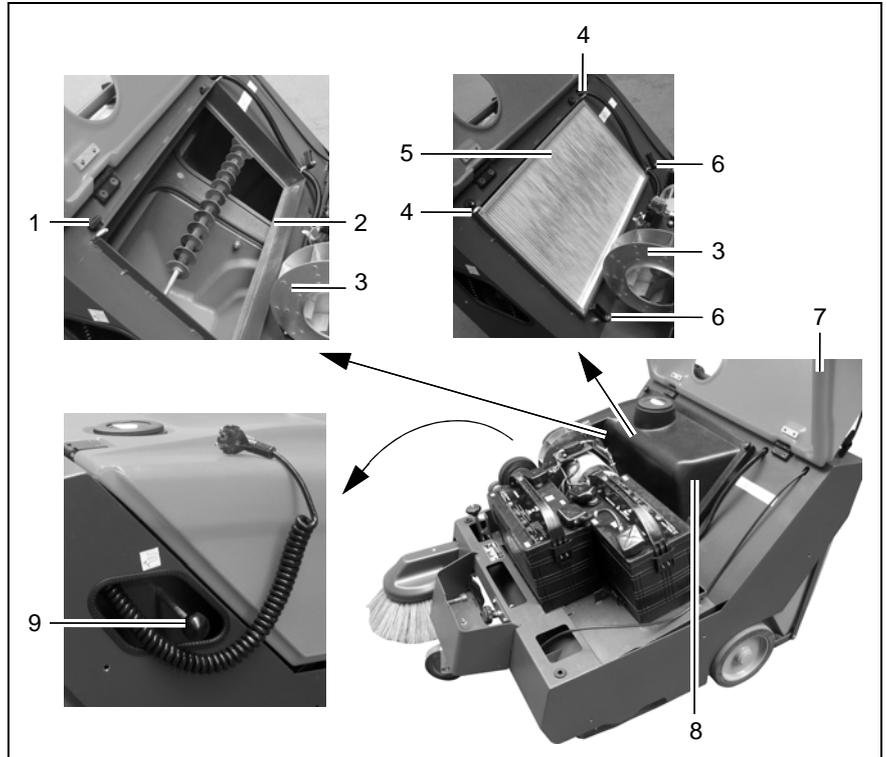

Fig. 26
Clean the panel air filter (Fig. 26/5) in the dust vacuum regularly and as necessary using the shaking device:
1. When the engine is switched off, pull/push the lever (Fig. 26/9) of the shaking device quickly, several times.
1. Unlock the hood (Fig. 26/7) using a square wrench and open the hood (Fig. 26/7).
Ensure the engine has stopped before opening the hood (Fig. 26/7). Risk of injury through belt drive and rotating fan (Fig. 26/3)!
2. Release the top filter cover locks: Unscrew the knurled screw (Fig. 26/1) from the threaded pins (Fig. 26/4).
3. Release the bottom filter cover locks: Pivot the hinged locks (Fig. 26/6) outwards.
4. Remove the filter cover (Fig. 26/8).
5. Remove the panel air filter (Fig. 26/5).
1. Drop the panel air filter (Fig. 26/5) a few times from a small height onto a level, solid surface. Be careful not to damage the filter ribs!
The ground must not have any surface irregularities. Do not drop the panel air filter (Fig. 26/5) onto the ground at a slant.
Never install panel air filters (Fig. 26/5) which have damaged filter ribs!
If the panel air filter (Fig. 26/5) is removed, check the self-adhesive sealing strips (Fig. 26/2) for signs of damage. Damaged sealing strips (Fig. 26/2) must be replaced:
1. Pull off the damaged sealing strips (Fig. 26/2).
2. Clean any residual adhesive from the surfaces on which the sealing strips (Fig. 26/2) must be adhered.
3. Adhere the new sealing strips (Fig. 26/2).
1. Insert the thoroughly cleaned or new panel air filter (Fig. 26/5) from the correct side in the filter support frame.
Pay attention to the labeling on the side of the panel air filter (Fig. 26/5)!
2. Replace the filter cover (Fig. 26/8).
3. Close the bottom filter cover locks: Pivot the hinged locks (Fig. 26/6) over the edge of the filter cover (Fig. 26/8).
4. Close the top filter cover locks: Screw the knurled screws (Fig. 26/1) on the threaded pins (Fig. 26/4).
5. Close the hood (Fig. 26/7) so that it audibly locks.
5. Check whether dust has accumulated on the inner side of the panel air filter (Fig. 26/5).
Do not open the hood (Fig. 26/7) when the engine is running. Risk of injury through belt drive and rotating fan (Fig. 26/3)!
1. When the engine is switched off, hood (Fig. 26/7) is open and filter cover (Fig. 26/8) removed, check whether dust escapes at the edges of the panel air filter (Fig. 26/5).
2. If this is the case, check the sealing strips (Fig. 26/2), refer to paragraph 5.10.4 and replace, if necessary.
3. Check the panel air filter (Fig. 26/5) and replace, if necessary. The frame of the panel air filter (Fig. 26/5) must not be twisted nor show signs of damage. Ensure that the panel air filter (Fig. 26/5) has been inserted true to side, refer to paragraph 5.10.5.
4. Repeat this test a certain time after cleaning. If dust continues to escape at the edges of the panel air filter (Fig. 26/5), contact a Hako service center.